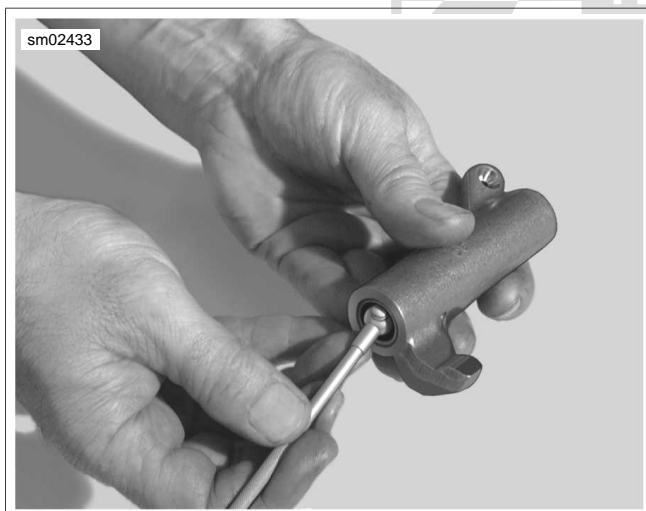

Figure 3-72. Checking Bushings
- a. See Figure 3-72. Measure the inside diameter of the rocker arm bushing.